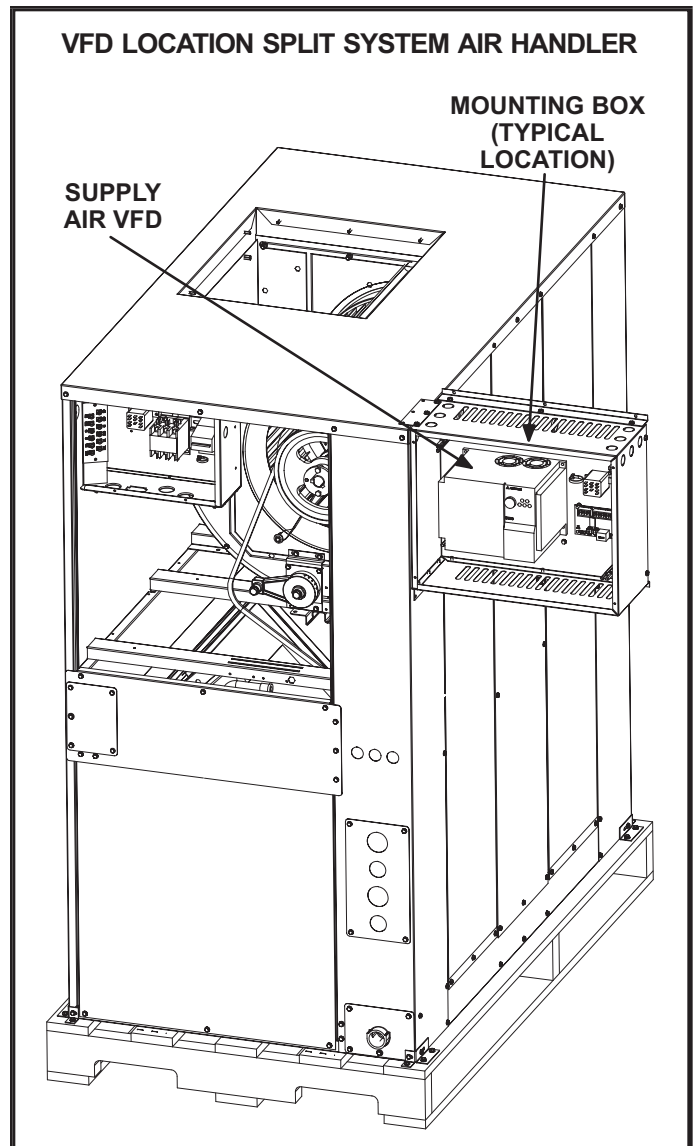
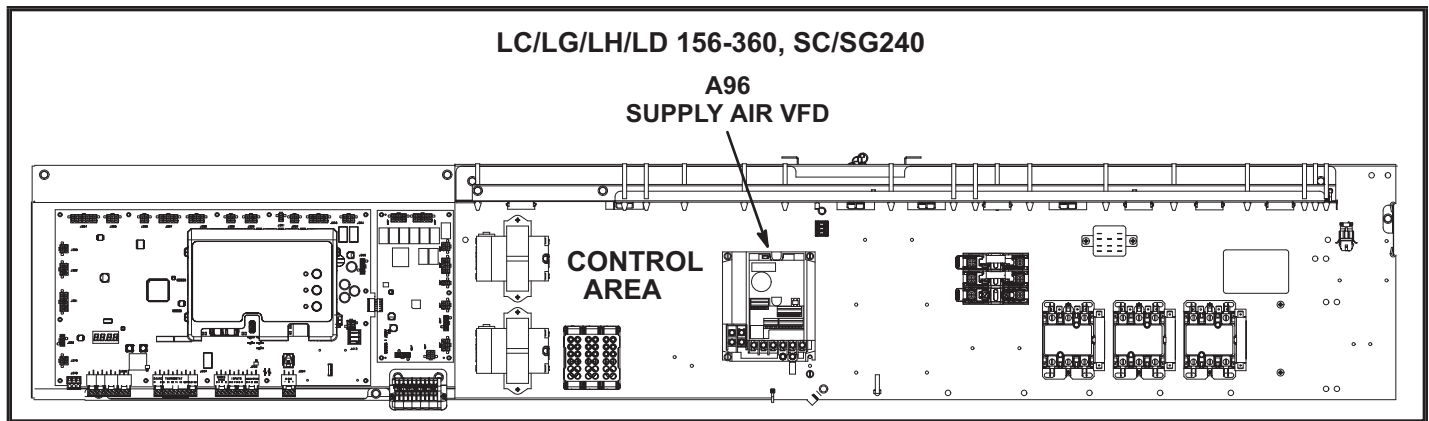

FIGURE 1
FIGURE 6
- 1 - Disconnect all power to unit and **WAIT AT LEAST 10 MINUTES** before opening the VFD cover. See FIGURE 1 through FIGURE 6 for location.